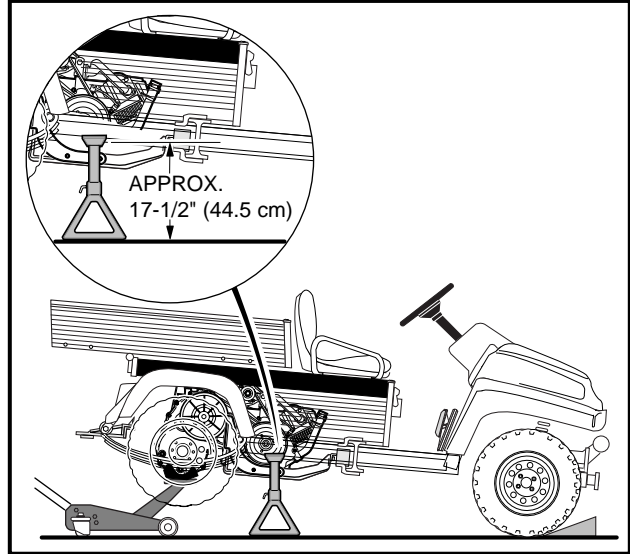

Figure 9-4 Correct Positioning of Jack Stands
- Position jack stands under the two side stringers as shown (**Figure 9-4, Page 9-4**). Lower the floor jack to let the jack stands support the vehicle. See **WARNING** on page 9-1.